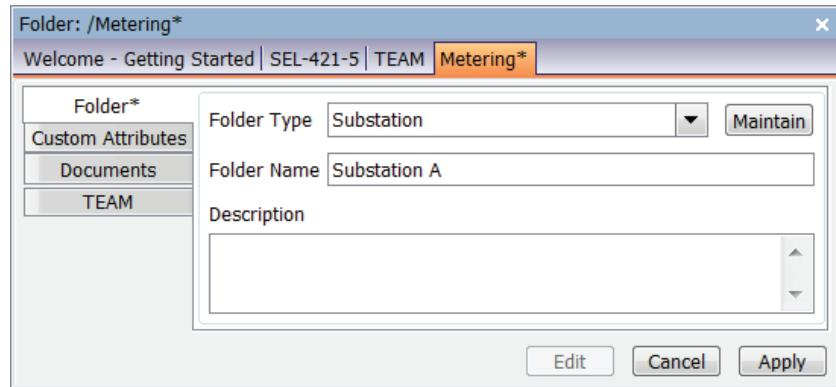

Figure 42 Rename Folder
Step 4. Double-click the newly added folder and, in the **Folder** tab, select **Edit**. For the purpose of this example, set **Folder Type** to **Substation** and **Folder Name** to **Substation A**. *Figure 42* shows the folder configuration screen with the parameters from this example. Select the **Save All** (disk) icon in the toolbar.